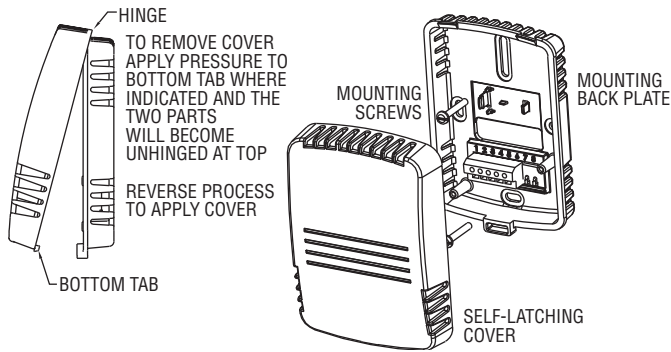

FIGURE 1: Removal Of Cover From Back Plate
1. Push tab on bottom of cover and lift cover from back plate (See Figure 1).
- Step 1: Remove the cover as shown in Figure 1.
- Step 11: Remove cover as shown in Figure 1.